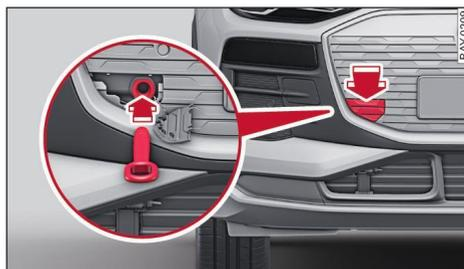

Fig. 140 Front bumper: Fitting the towline anchorage
- ▶ Firmly press the cap inwards briefly  $\Rightarrow$  Fig. 140. The cap will be released from the bumper.